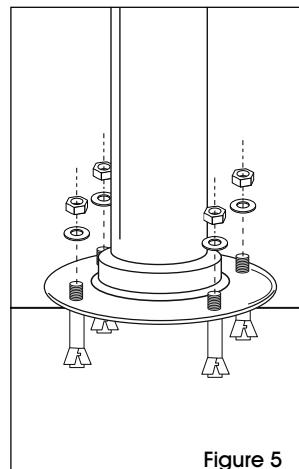

Figure 5
2. Install four anchor bolts into the holes and mount pole onto the bolts. Secure with washers and nuts. (See Figure 5)